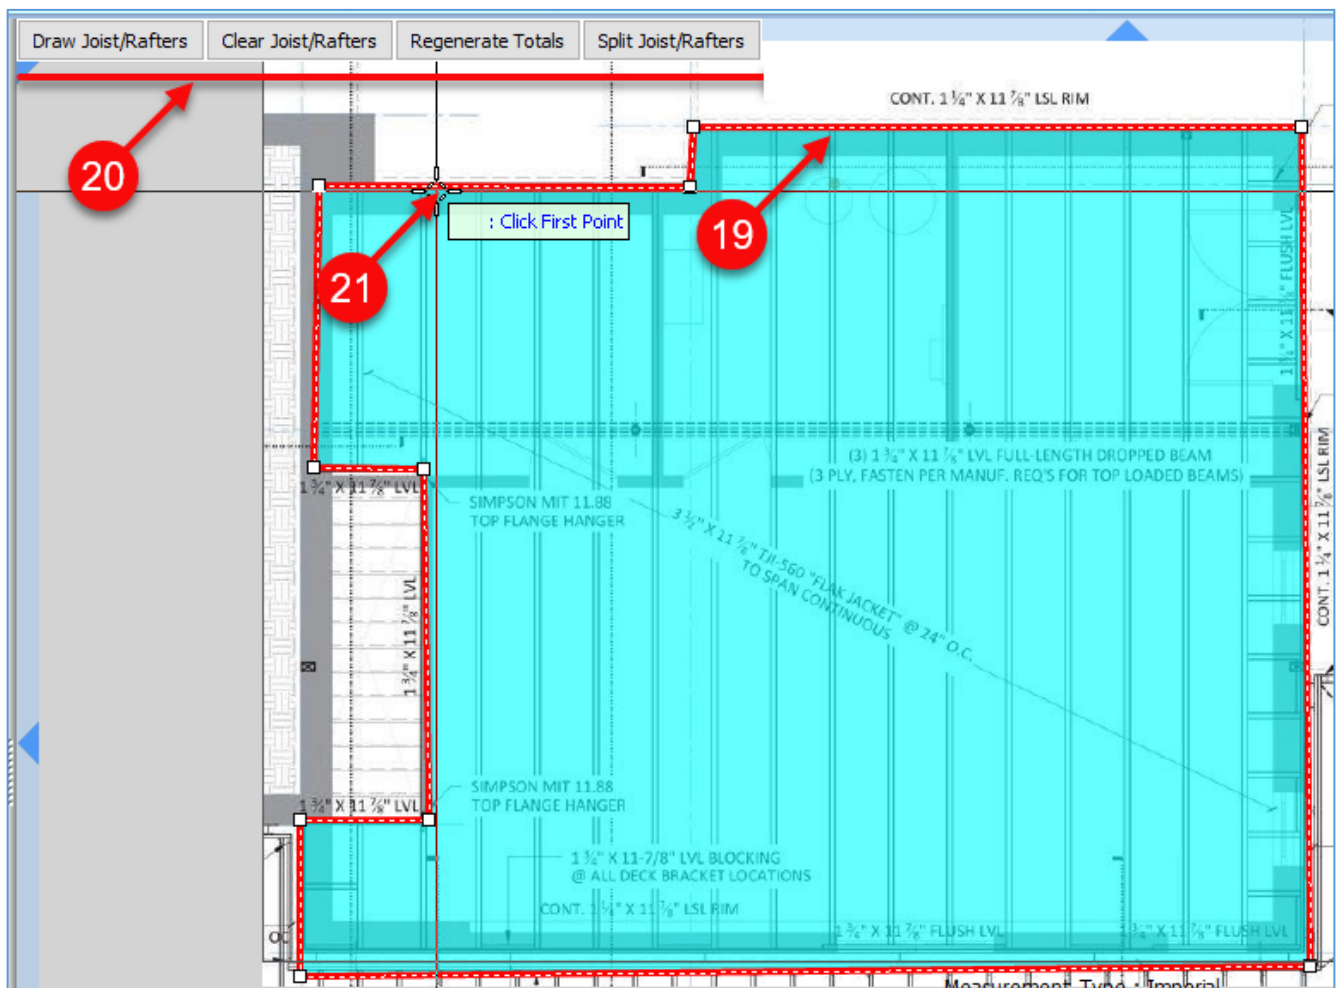

Figure 36-C
22. The “First Floor Joist Takeoff” shows 862.1 SQ FT, and the total length of all joists measures 410.8 FT (Fig. 36-D).